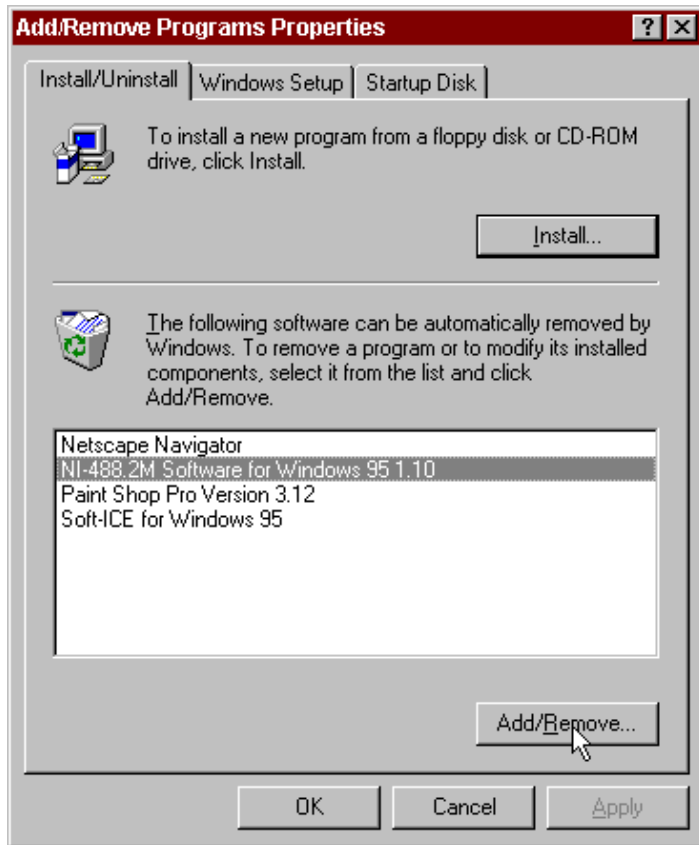

Figure A-2. Add/Remove Programs Properties Dialog Box
2. Double-click on the **Add/Remove Programs** icon in the Control Panel to launch the Add/Remove Programs applet. The dialog box shown in Figure A-2 appears. This dialog box lists the software available for removal.